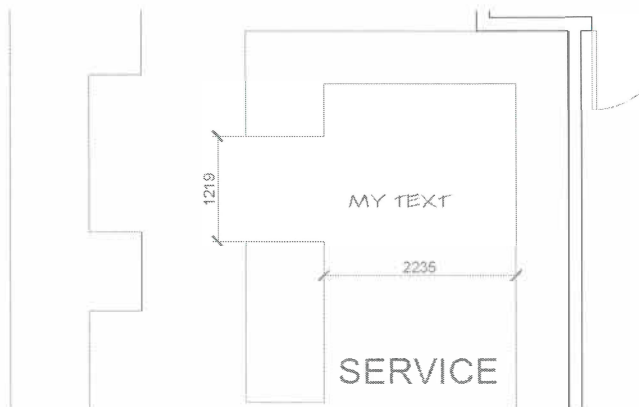

Figure 8–32
8. Set the layer **Dimensions** to be current. Double-click inside the viewport that displays the Service area and add the dimensions and text shown in Figure 8–32. They only display in the current viewport.